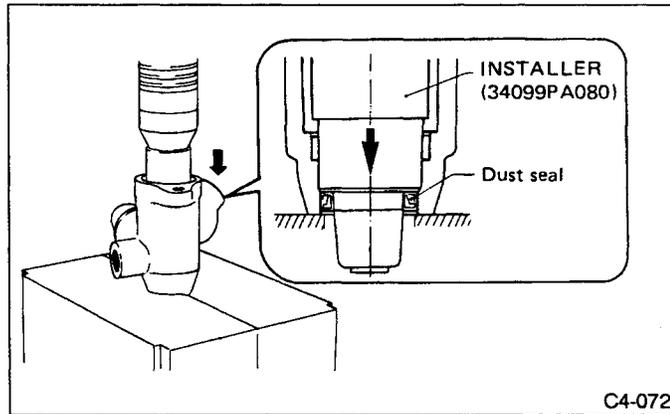

Fig. 126
(2) Using INSTALLER and press, install dust seal.
- a. Face dust seal in the direction shown in Figure 126.